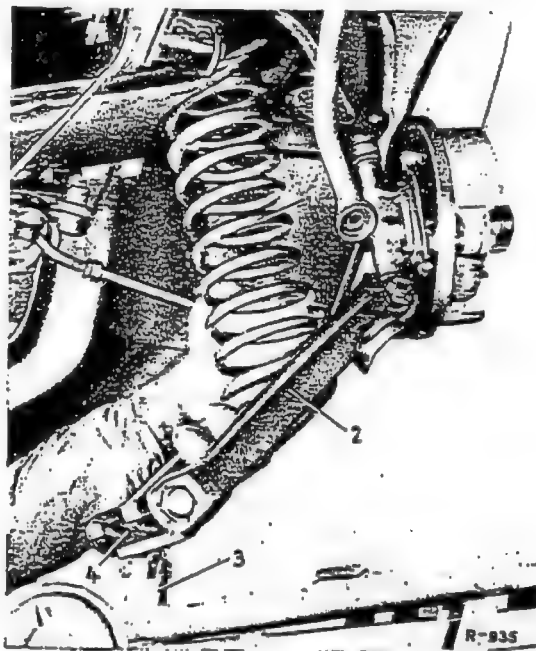

Fig. 32-4/2
5. Insert the two guide pins of Cradle 111 589 00 63 (3) in the eyes on the pivot pin (4) for the lower control arm. Then slide the jack under the car to fit the lower bolt of the cradle, and support the lower control arm (Fig. 32-4/2).
6. Unscrew the two inner of the four hexagon screws from the pivot pin (4). Now carefully lower the car jack and remove the front spring together with the rubber washer (Fig. 32-4/2).